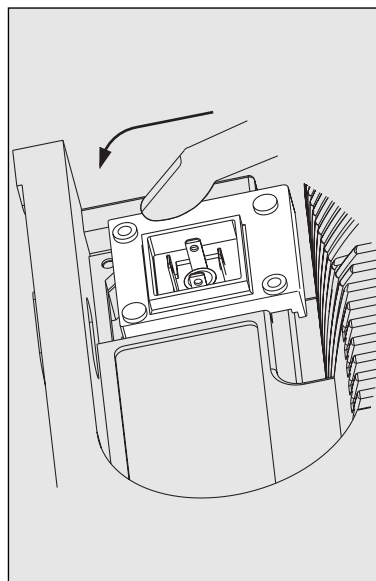

Fig. 18
- ▶ Push the relay component through the relay opening, holding the upper corner of the lower edge against the guide rail on the pump base, until the contact of the relay component has reached the controller contact. (See fig. 18: test: can you still move the end of the circuit back and forth?)